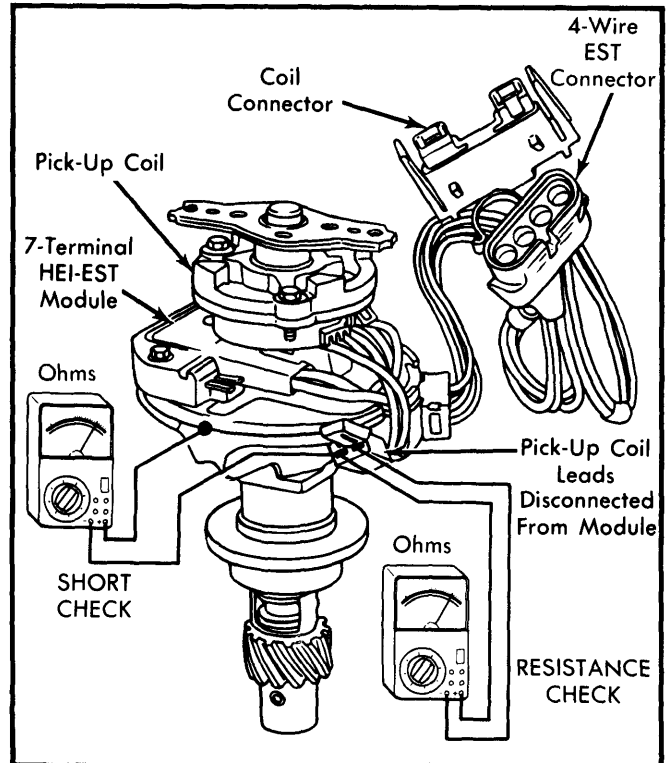

Fig. 7 Distributor Pick-Up Coil Short and Resistance Checks (External Coil)
4) On all models, remove rotor and disconnect pick-up coil leads from HEI-EST module. See Fig. 7. Mark distributor shaft and gear for later reassembly. Drive out roll pin and remove distributor shaft. On models with integral coil, remove magnetic shield. Then remove retaining "C" washer, pick-up coil, magnet and pole piece.